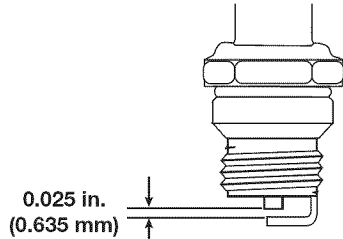

Fig. 33
4. Replace cracked, fouled or dirty spark plug. Set the air gap at **0.025 in. (0.635 mm)** using a feeler gauge (Fig. 33).